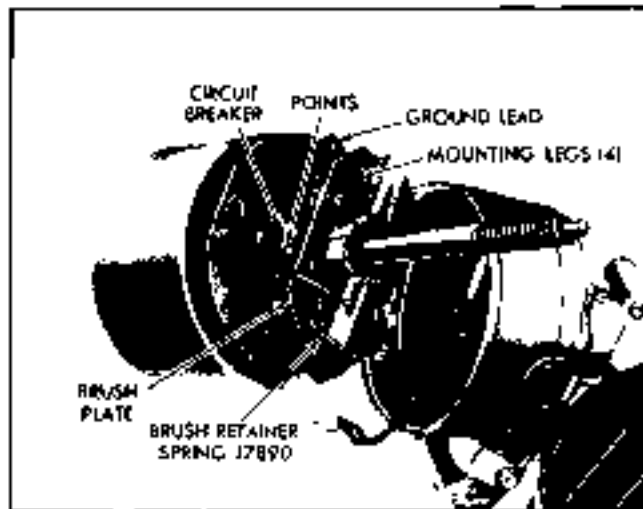

Fig. 12A-5 Retainer Holding Brush in Place
7. Install U shaped brush retainer clip J 7890 over brush holder that has brush lead attached to circuit breaker (Fig. 12A-5).